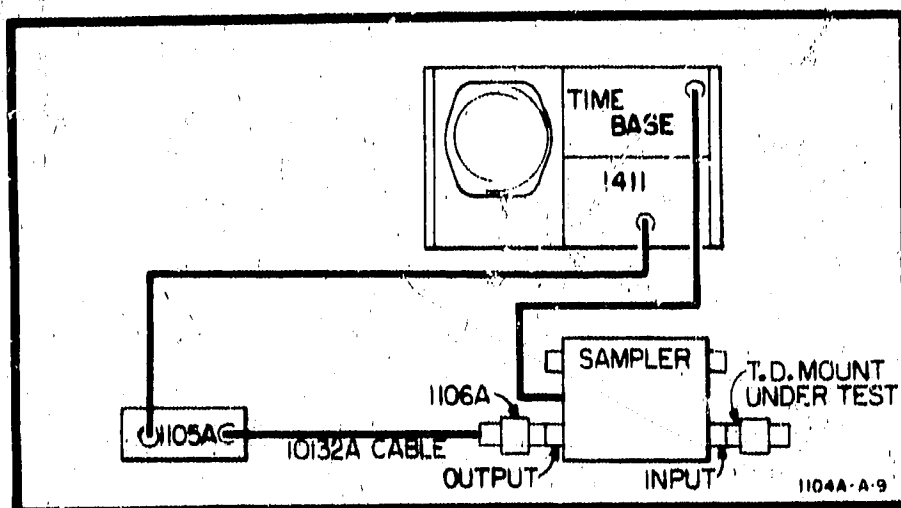

Figure 6. TDR Reflection Measurement
18. Connect the equipment as shown in Figure 6. The reflection from the T. D. Mount under test should be less than 10% using a 40 ps TDR system. The HP Sampling System listed in Table 3 forms a 40 ps TDR system as specified.